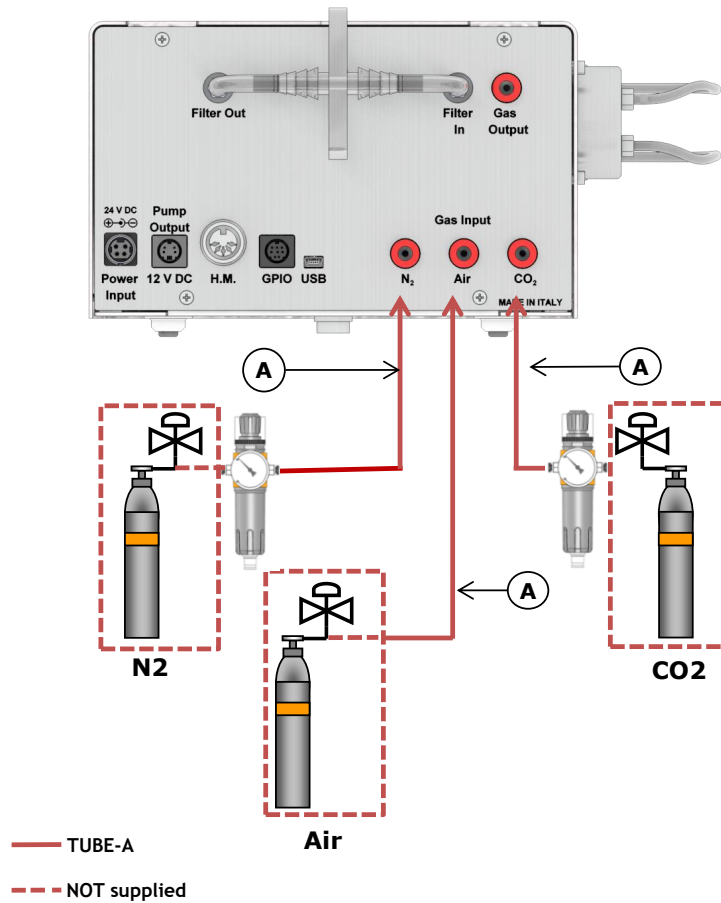

Figure 13. N₂, Air and CO₂ tanks connections to the back panel of CO₂-O₂-UNIT-BL [0-10; 0-1].
5. Figure 13 shows the connections between the N₂, Air and CO₂ tanks and the respective connectors on the rear panel of CO₂-O₂-UNIT-BL [0-10; 0-1].